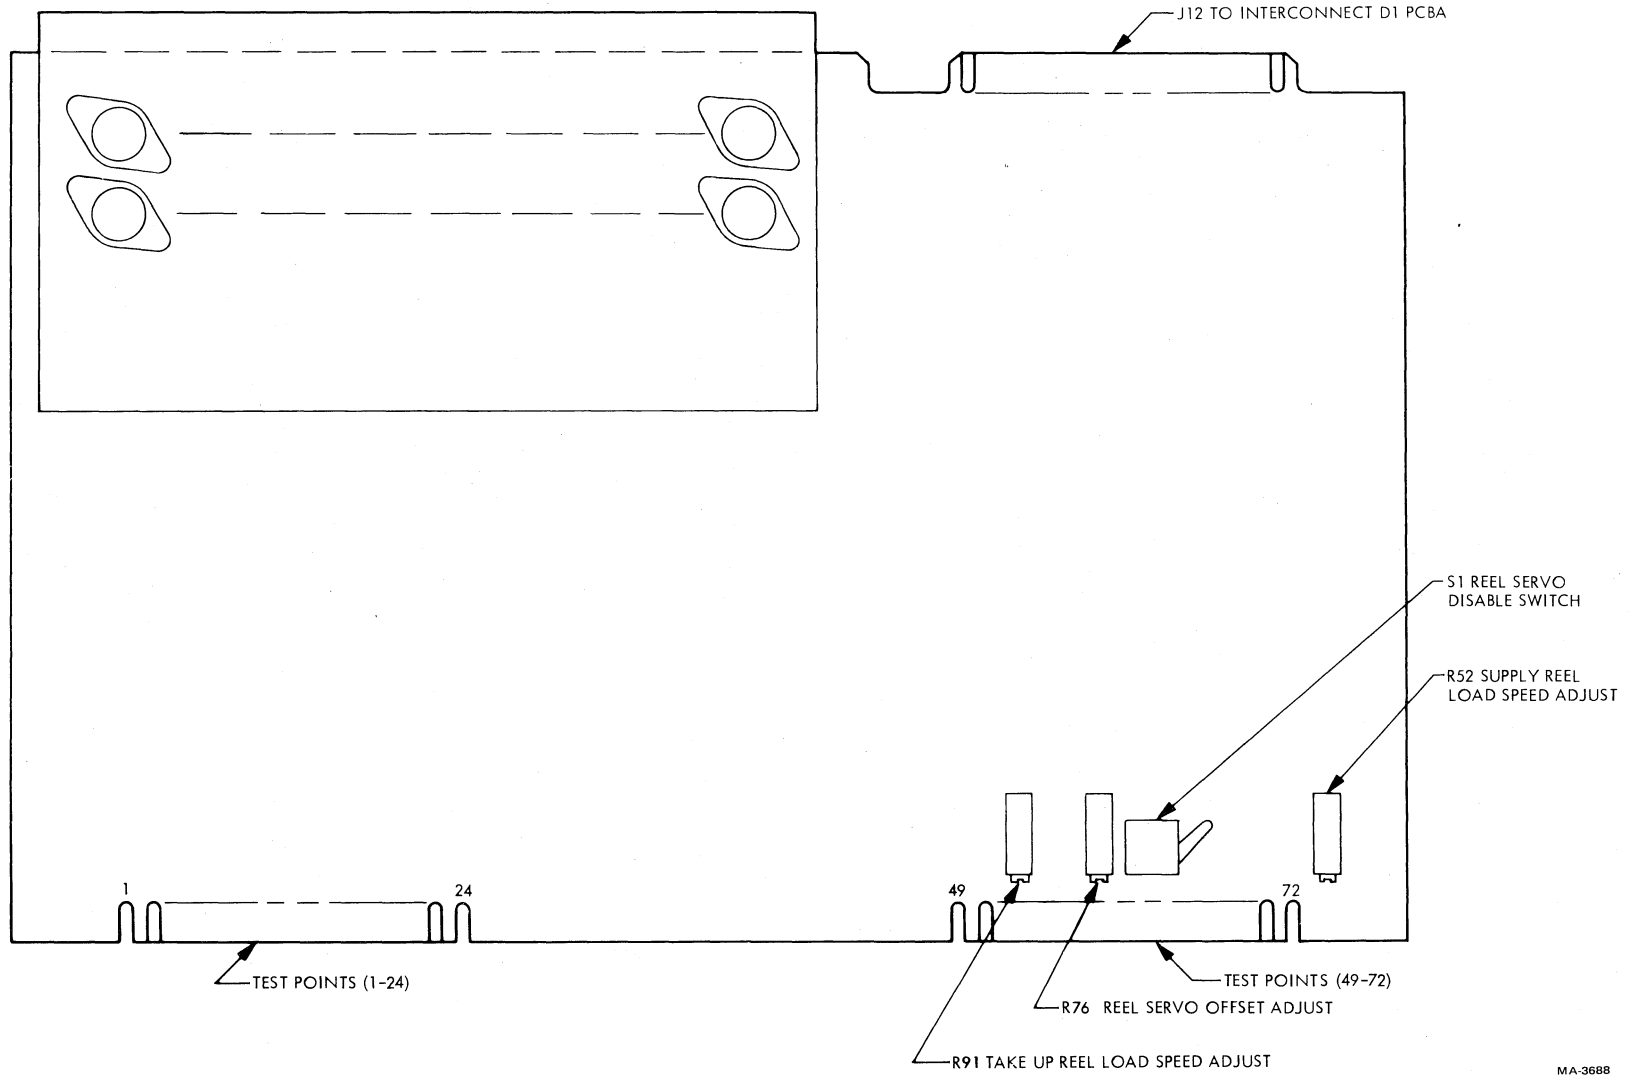

Figure 6-7 Reel Servo PCBA Adjustments and Test Points
3. Place disable servo switch S1 on the reel servo PCBA (Figure 6-7) toward the rear of the transport.
2. Place servo disable switch S1 on the reel servo PCBA (Figure 6-7) toward the rear of the transport (servo disable position).
3. Remove the red cap from the thread block pressure port (M) and connect a differential air gauge with a range of 0–1016 mm (0–40 in) of water. Use the high input to the air gauge to measure pressure.